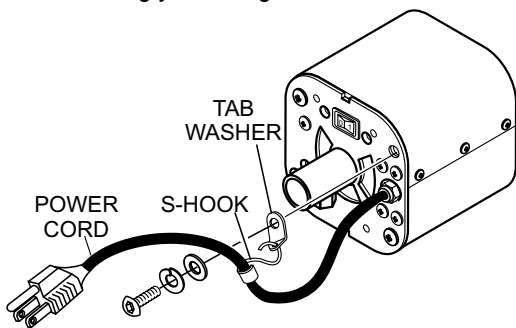

Figure 5. Location of Tab Washer
3. Install the bottom plate and fasten the four button screws and washers securely. Make sure that the tab washer is positioned where the power cable hook can attach to it snugly. See Figure 5.